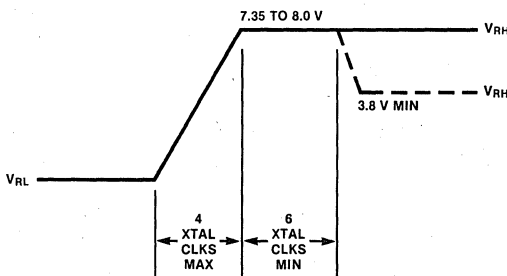
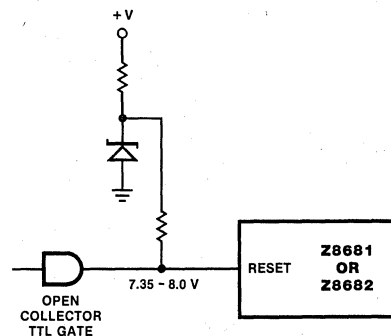

Figure 13. Z8682  $\overline{\text{RESET}}$  Pin Input Waveform
Figure 14.  $\overline{\text{RESET}}$  Circuit
**External Interface.** The Z8682 requires a 7.5V positive logic level on the  $\overline{\text{RESET}}$  pin for at least 6 clock periods immediately following reset, as shown in Figure 13. The Z8681 requires a 3.8V or higher positive logic level, but is compatible with the Z8682  $\overline{\text{RESET}}$  waveform. Figure 14 shows a simple circuit for generating the 7.5V level.